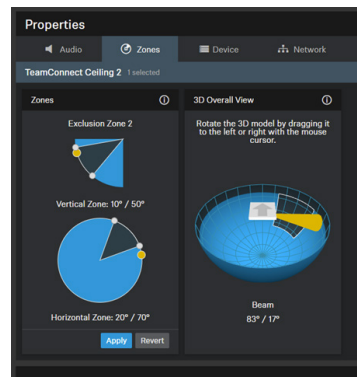

Figure 7. Control Cockpit Zones Tab
3. Edit the vertical and horizontal angles of the selected exclusion zones (see figure 7 on page 6) to remove the observed noise.